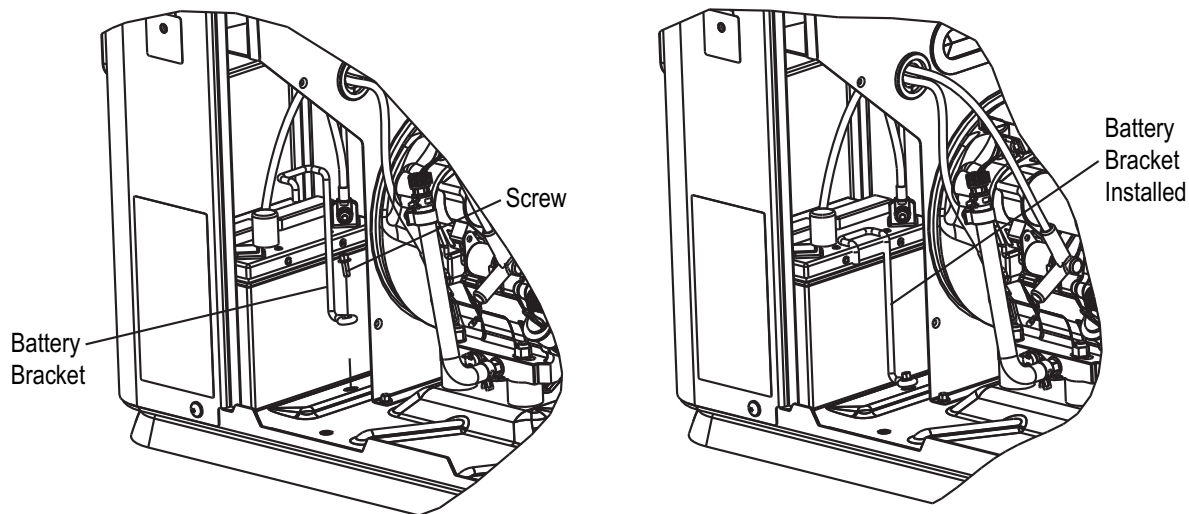

Figure 6-4. Battery Installation
14. Install the battery bracket provided in the loose parts and mount it securely to the base using the M6 thread forming screw provided (Figure 6-4.).